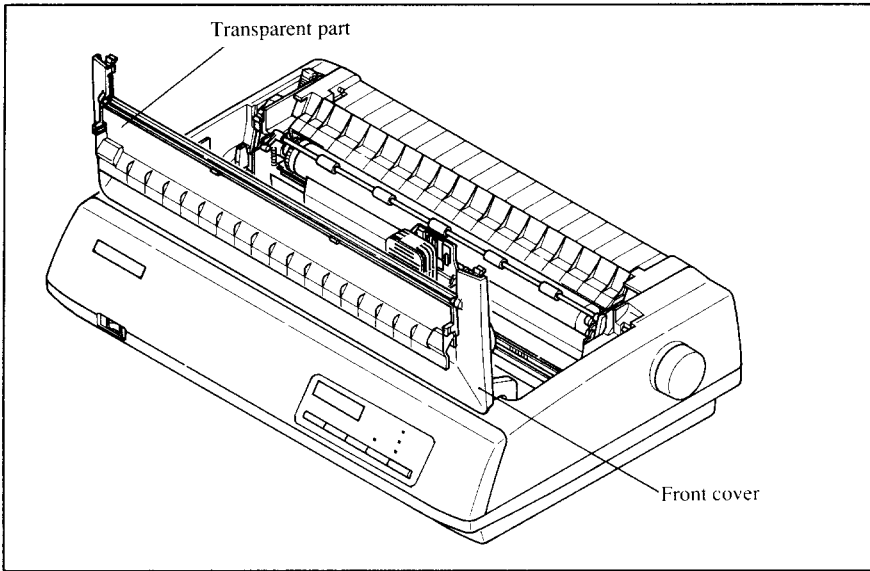

Figure 3-1. Open the front cover, and swing down the transparent part.
1. Open the front cover by lifting up the back using the two grips on either side, then swing down the transparent part (see Figure 3-1).
Swing down the transparent part (see Figure 3-1).